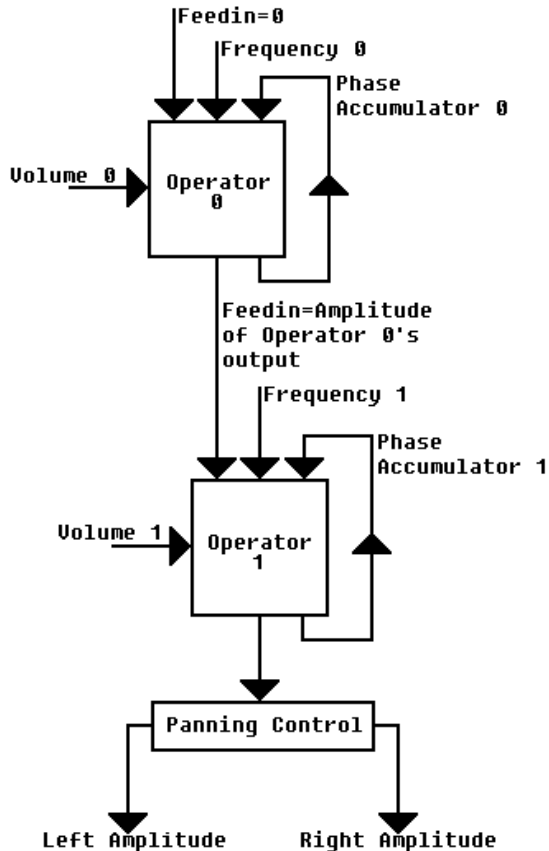

Figure 2: PD82 Channel Layout
The channel structure of the PD82 is shown to the left in Figure 2. Two independent operators generating quadrant adjustable sine waves are used to create the resulting waveform for a single channel. The output of the first operator (0) is used to adjust the phase of the second operator (1). As both operators may have different base frequencies and waveforms, several unique harmonics may be generated in a single channel.